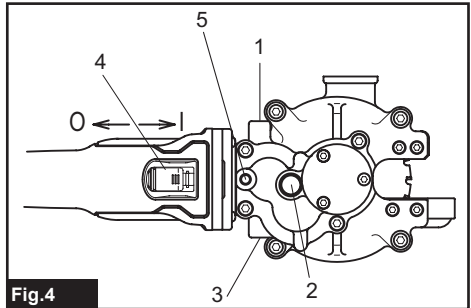

Fig.4
► Fig.4: 1. Handle Position (parallel / left side) 2. Lock Button 3. Handle Position (parallel / right side) 4. Switch 5. Handle Position (vertical / upper side)